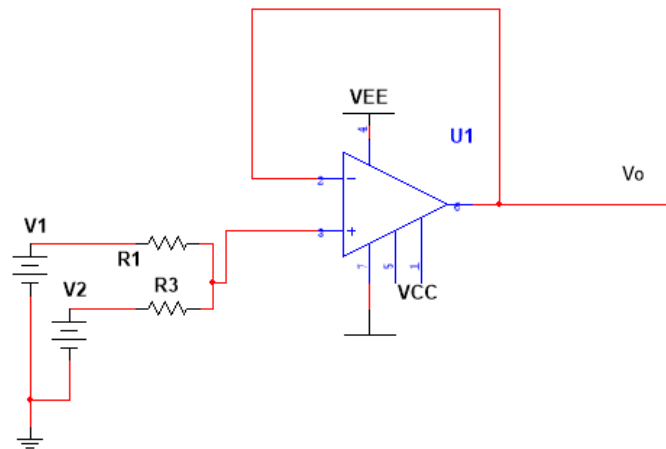

Fig 2.5: Op-amp as Non-inverting DC Averager
2. The circuit is set-up as shown in figure 2.5. The supply voltage $\pm V_{CC}$ is set at $\pm 12V$.